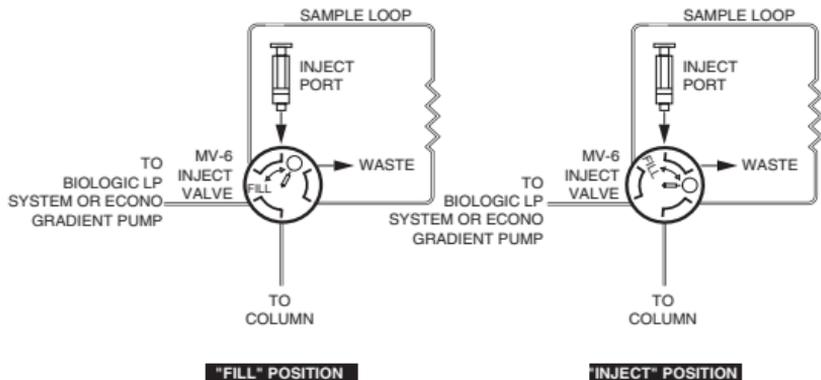

Fig. 2. Connecting to an MV-6 valve.
2. To maximize gradient accuracy and to apply samples efficiently, install 1.6 mm ID tubing from the pump to the MV-6 sample inject valve (if available). If using the MV-6 sample inject valve, turn the knob counterclockwise as far as it will go so it will now correspond to the printed diagram on the valve (see Figure 2).
3. Connect the inlet of the cartridge to the male luer fitting on the MV-6 sample inject valve (see Figure 2). If not using the MV-6 sample inject valve, connect a barb to male luer fitting on the 1.6 mm ID tubing, then connect to the top of the female Luer on the Bio-Scale Mini cartridge. For optimum performance, a cartridge should be mounted vertically with the arrow on the cartridge pointing downward (see Figure 3).